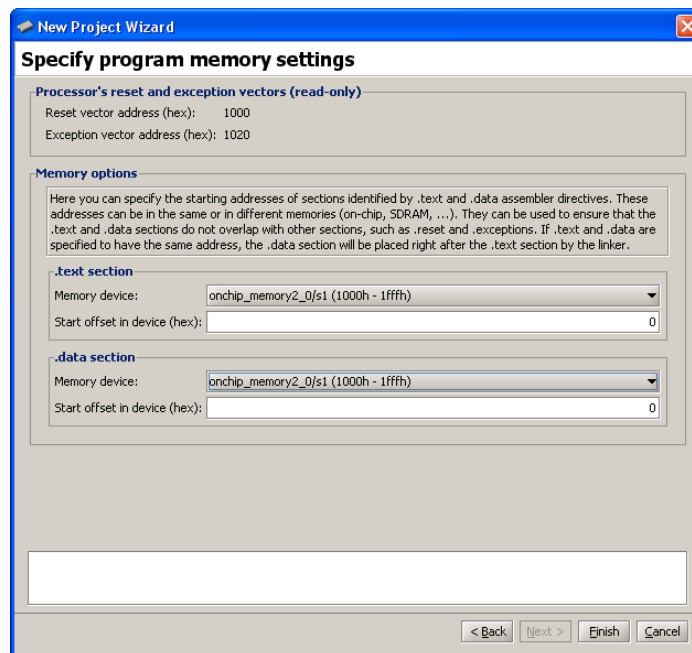

Figure 25. The program memory settings window.
10. The Altera Monitor Program also needs to know where to load the application program. In our case, this is the memory block in the FPGA device. The SOPC Builder assigned the name *onchip_memory2_0* to this block. As shown in Figure 25, the Monitor Program has already selected the correct memory device.